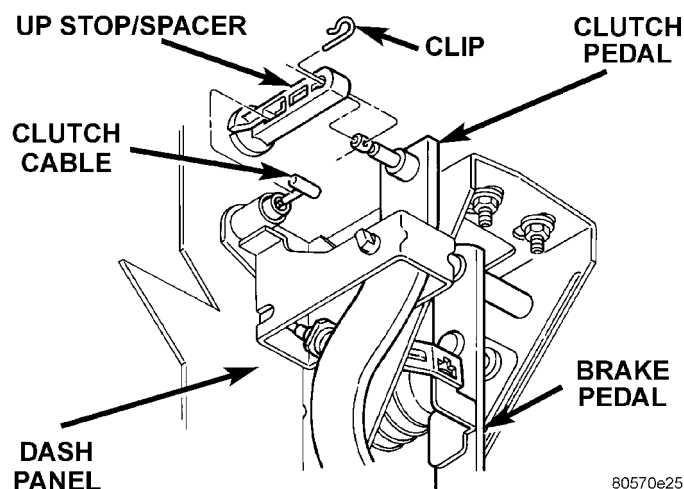

Fig. 5 Cable End Removal
(4) Guide cable through slot in transaxle and disconnect cable from release lever.
(5) Disconnect clutch cable up-stop/spacer with cable strand from clutch pedal (Fig. 5).